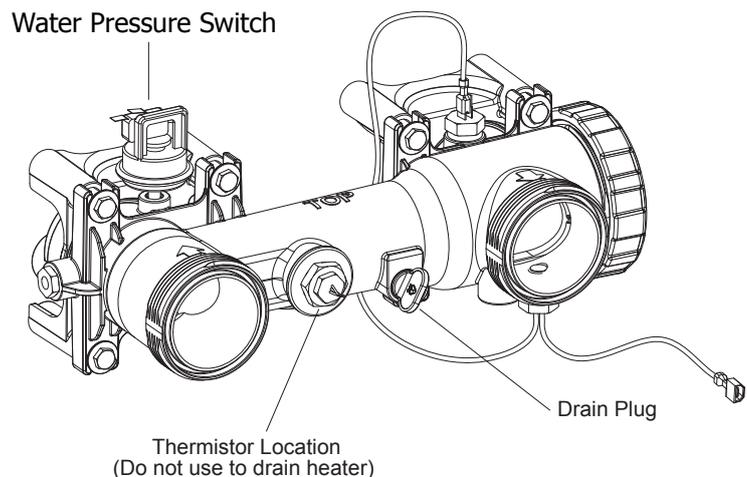

Fig 1 - Header Manifold Assembly
- 2) Locate the Water Pressure Switch which is located on top of the Header Manifold Assembly. Refer to Fig 1.